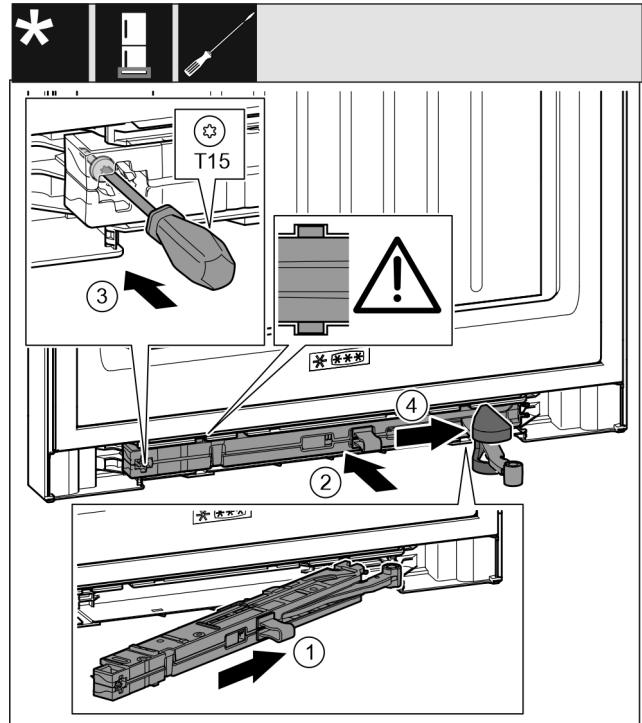

Fig. 45
- ▶ Slide the closing damper unit Fig. 45 (1) on the swap bearing block side up to the stop diagonally into the recess.
- ▶ Push the closing damper unit Fig. 45 (2) completely into the recess.
- ▶ Tighten the screw Fig. 45 (3) with a screwdriver.
- ▶ Push the cover Fig. 45 (4) over the joint.